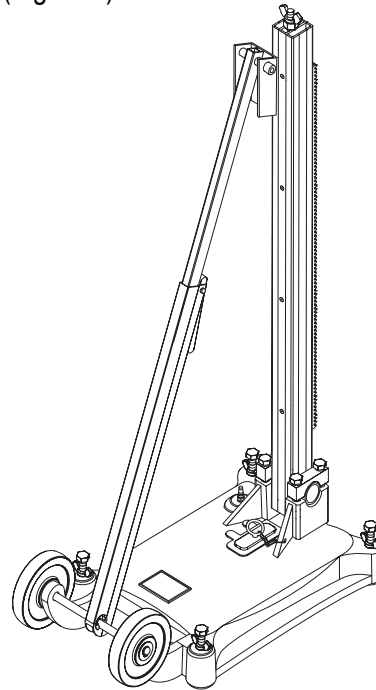

Figure 5. Dril Rig (upright Position)
3. Place the drilling rig in an upright position on a firm flat surface (Figure 5).